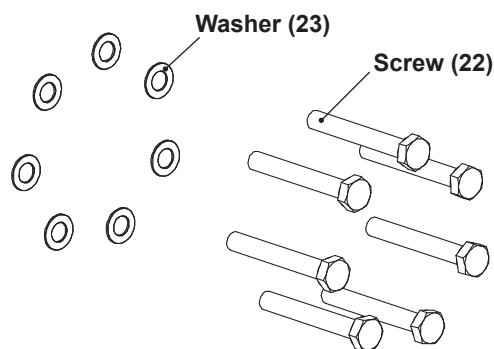

Figure 17, Washers & Screws
2. Install *new* washers (23) onto the end cover screws (22). *See figure 17.*